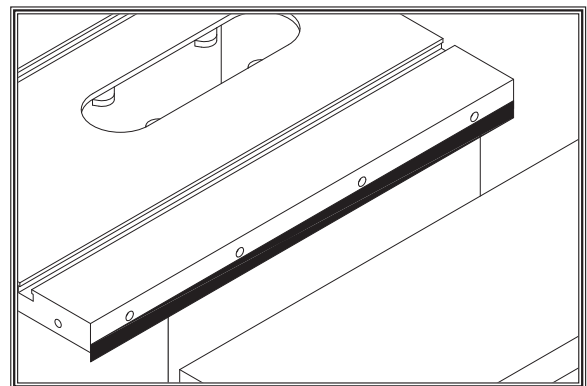

Figure 14. Masking tape location for tilting the extension wing up.
- If the outside end of the extension wing tilts down, use a strip of masking tape along the bottom edge of the main table to shim the extension wing up (Figure 14).